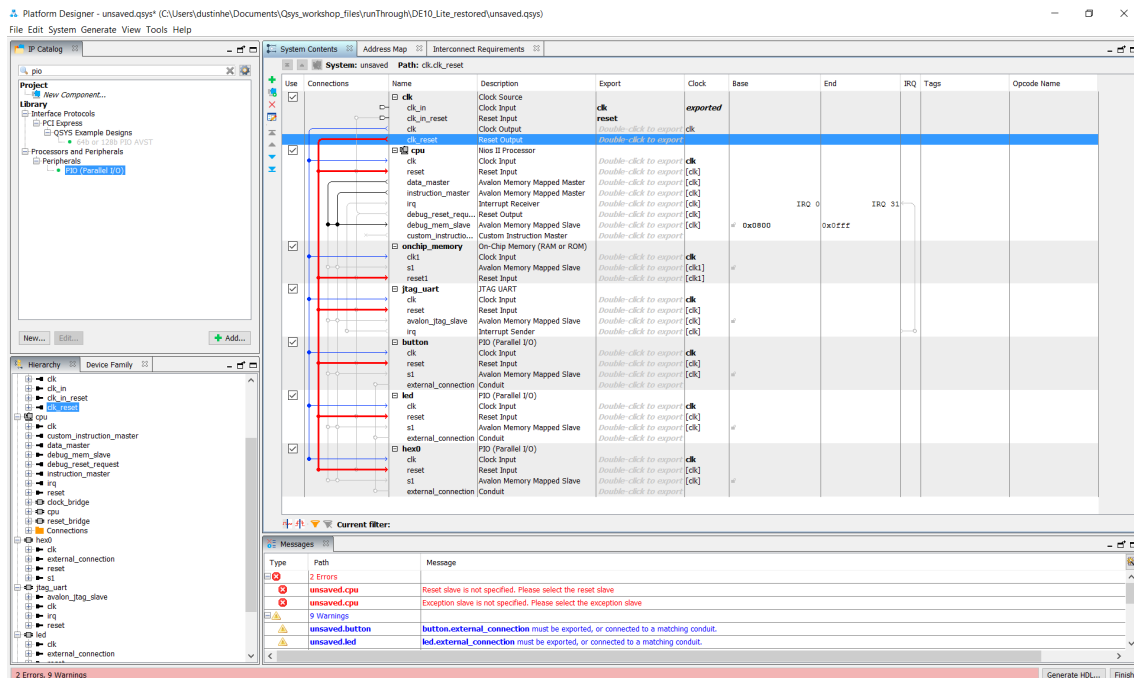

Figure 21: clk and clk_reset Connected in Platform Designer
- Perform the same operation to connect the **clk_reset** from the clock component to the **reset** signals on the other components. At this stage, your design should look like Figure 21 below. (Color-coded for clarity.)